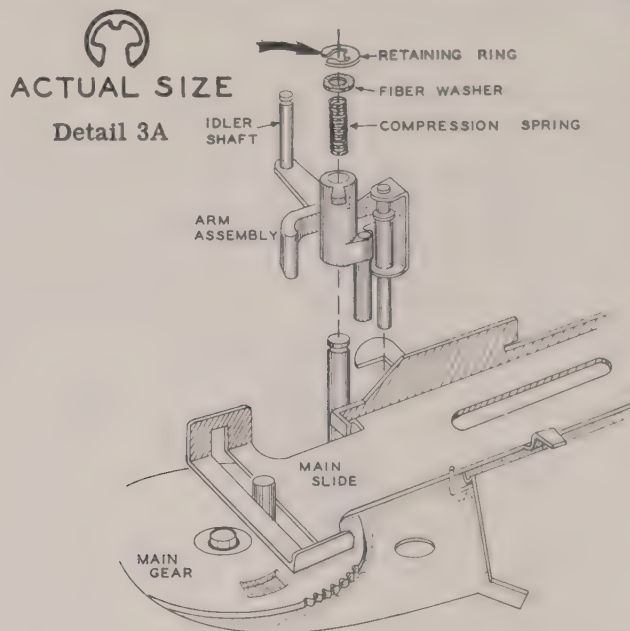

Figure 3
- () With the changer assembly positioned as in Figure 3, slip the idler arm assembly (bag "F") over the pin next to the main slide. The counterbored side of the sleeve which slips over the pin should be upward.
- () Compress this spring until a fiber washer and light retaining ring from bag "EE" can be placed in position. Snap the retaining ring into the groove in the top of the pin. See Figure 3 and Detail 3A.